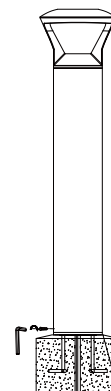

Fig 9
10. Put the fixture body back on and tighten the 3 screws Fig. 9.